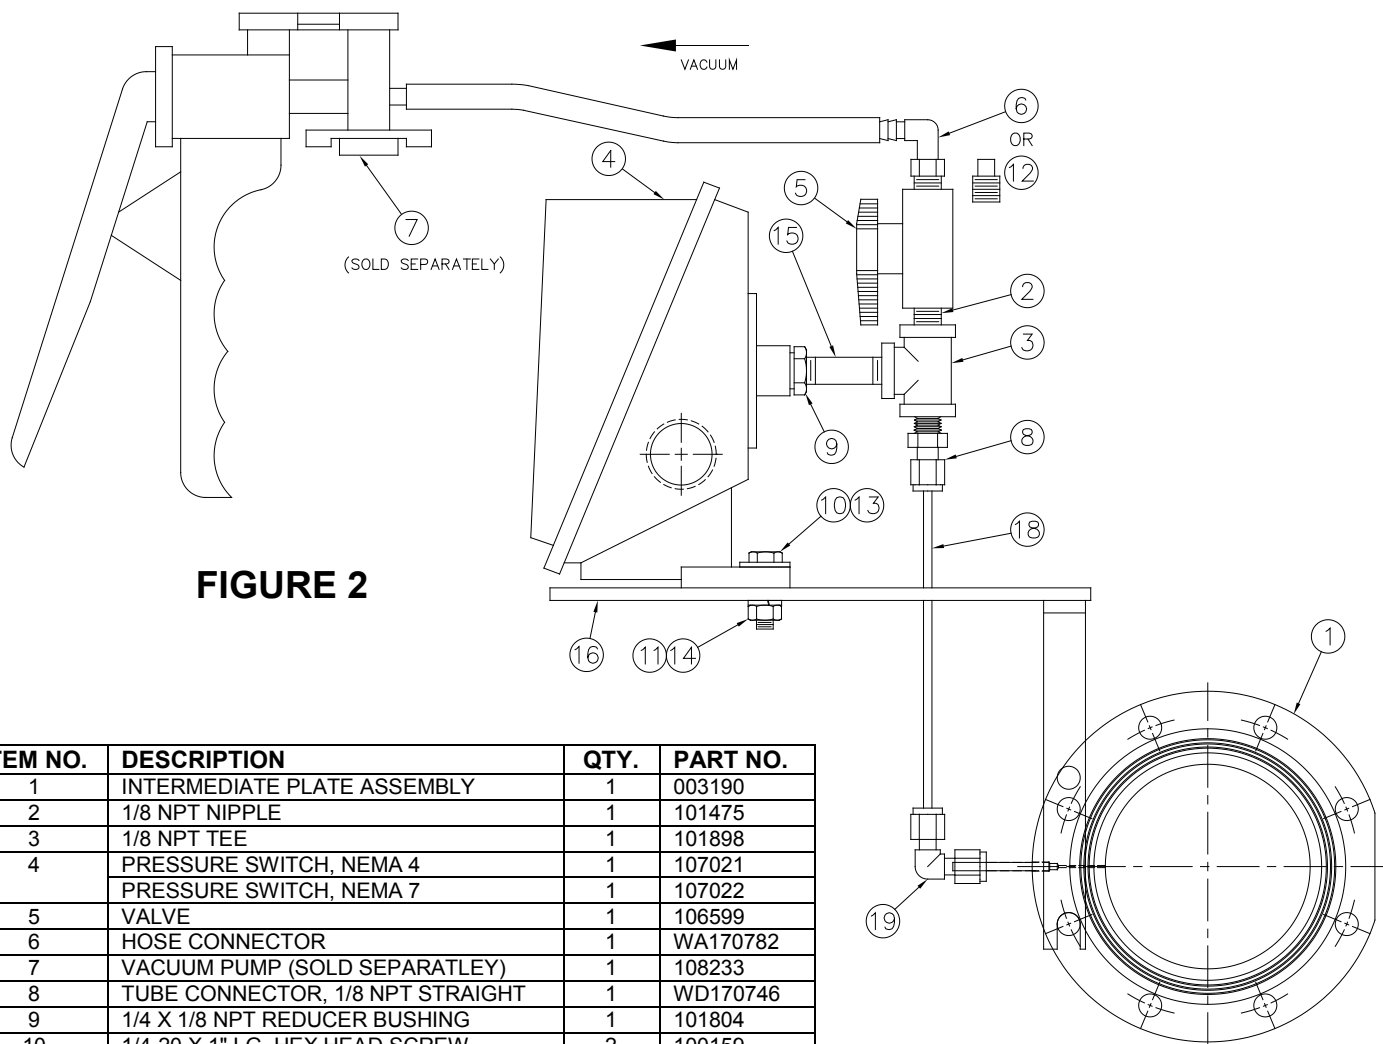

FIGURE 2
- 1.0.6 Open valve Item No. 5 (**Figure 2**).
- 1.0.7 To remove air, attach the vacuum pump with a hose connection Item No. 6 to the valve Item No. 5 (**Figure 2**) and pump **until resistance is felt**, for normal operating conditions.